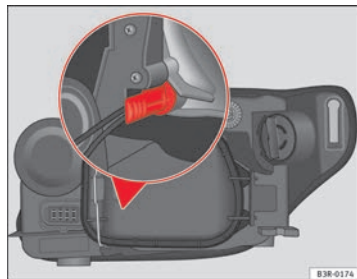

Fig. 203 Side lights. Bulb holder grip in vertical position
- Insert the bulb into the socket so that the side of the bulb holder grip is vertical ⇒ fig. 203 and press on it.